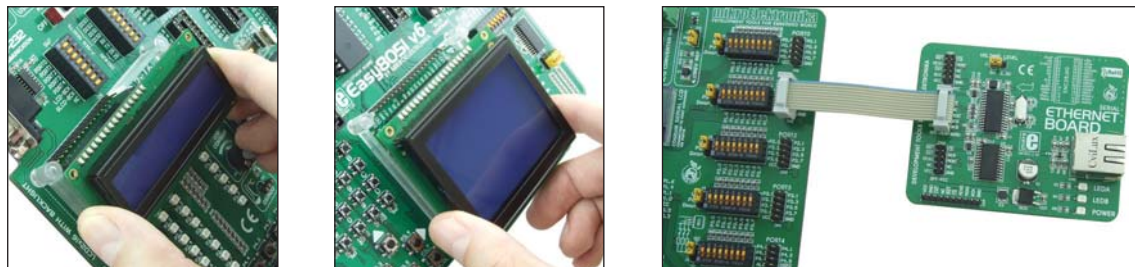

Figure 1-3: Placing additional modules on the board
**NOTE:** If you use additional modules, such as LCD, GLCD etc., it is necessary to place them properly on the development board before it is turned on. Otherwise, both additional modules and development system can be permanently damaged. Refer to Figure 1-3 for their proper placing.